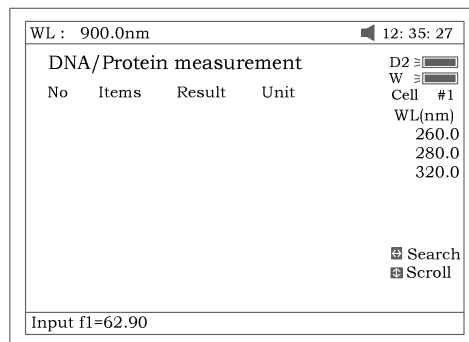

Fig 61
1. To use a simpler or different algorithm, you can enter your own values for f1-f4. Press **[F1]** to set f1-f4. Input the value by pressing the numeric keypad (Fig 61).